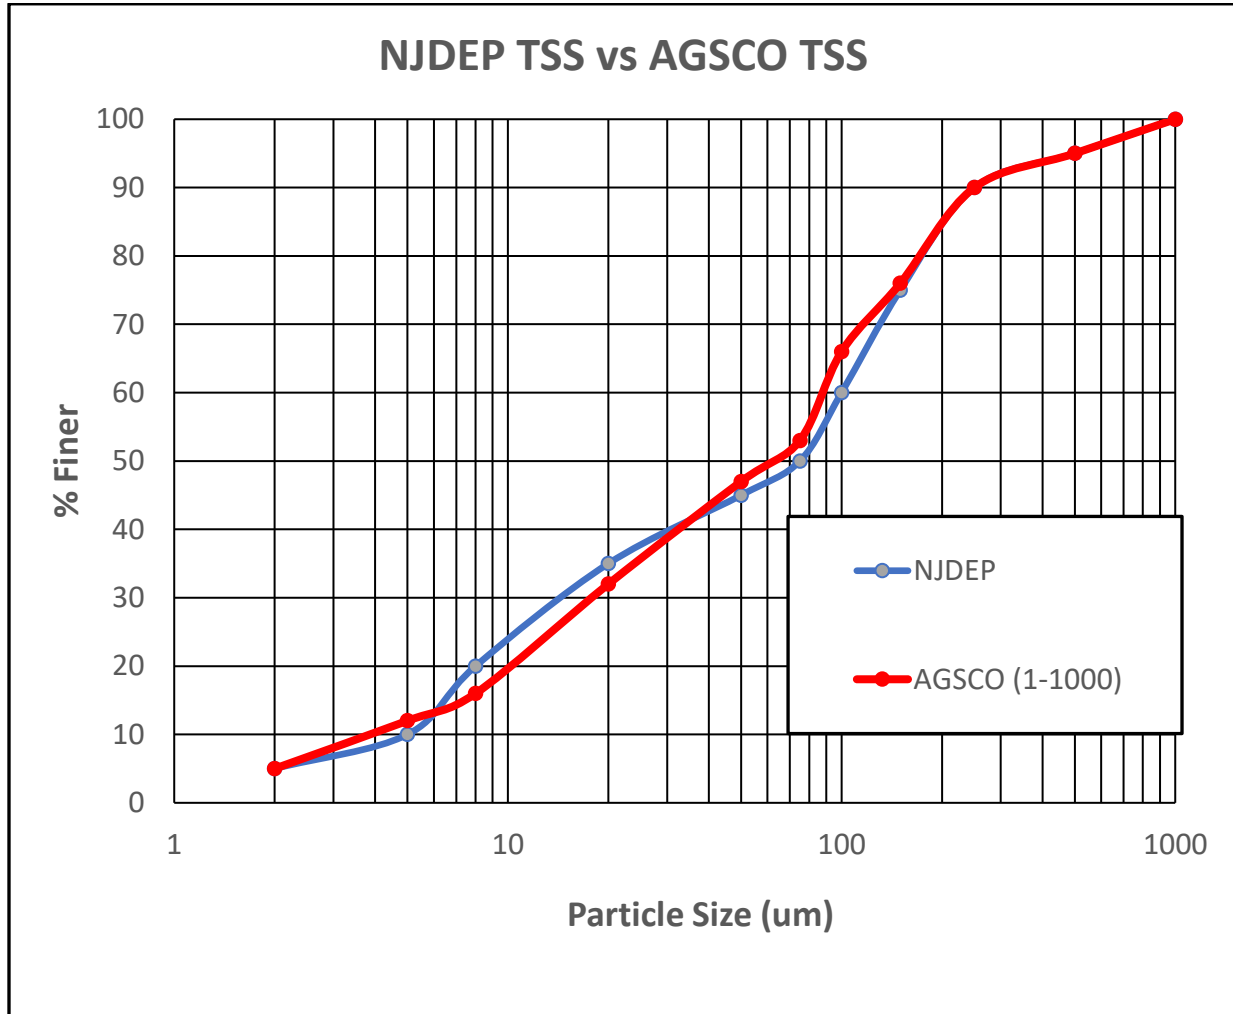

Figure 2. Test TSS Particle Size Distribution
The TSS used for testing was the AGSCO NJDEP (1-1000 um) TSS Mixture. The particle size distribution for the AGSCO (1-1000) sediment is shown in Figure 2. The AGSCO NJDEP mixture was designed to meet the NJDEP test TSS specifications. As demonstrated in Figure 2, the AGSCO TSS is close to the TSS specified by NJDEP.
The regression equation from Figure 2 was used along with the NJDEP weighting criteria (Table 2) to define a NJDEP water quality flow rate for HydroDome.
*based on the regression line in Figure 2
Based on the NJDEP weighting system and the TSS removal curve from Figure 2, the hydraulic loading rate for 50% removal of the is 18.6 gpm/ft². Table 4 provides a sizing table for the HD3 through HD 6 based on this analysis and surface area scaling.
The water quality flow rates given in Table 4 are based on the TSS particle size distribution given in Figure 2 (AGSCO 1-1000 / NJDEP). Water quality flow rates for coarser TSS distributions (i.e. OK110), or finer TSS, will be respectively higher, and lower, than those provided in Table 4.